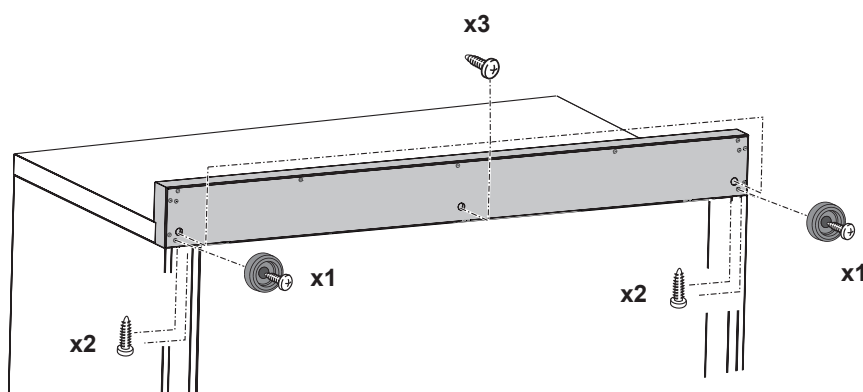

Fig. 1.3
- It is mandatory to install and use the appliance with the backguard correctly in place (fig. 1.3).